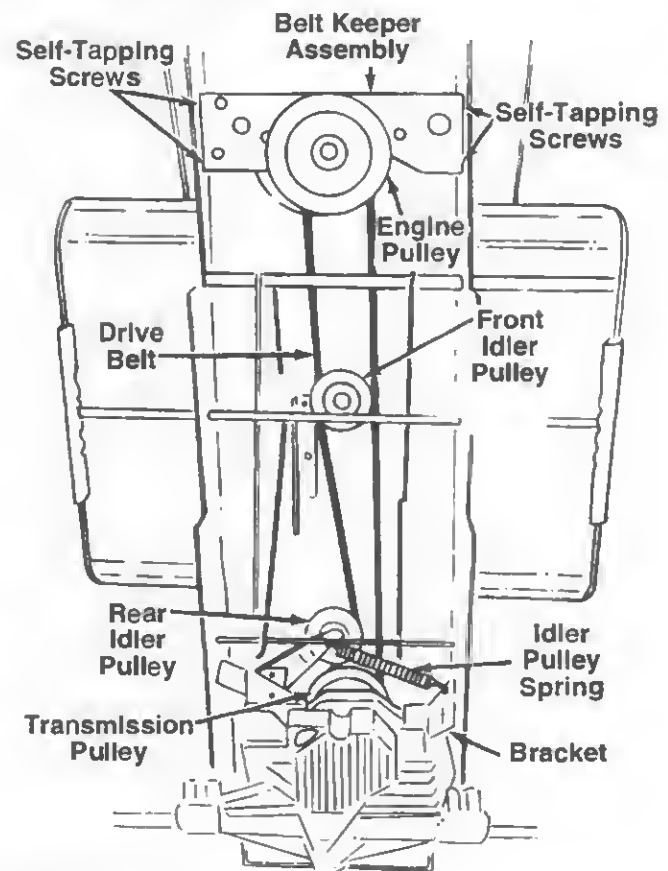

**FIGURE 19.**
10. Remove the belt guards at each deck pulley by removing the self-tapping screws. See figure 19.